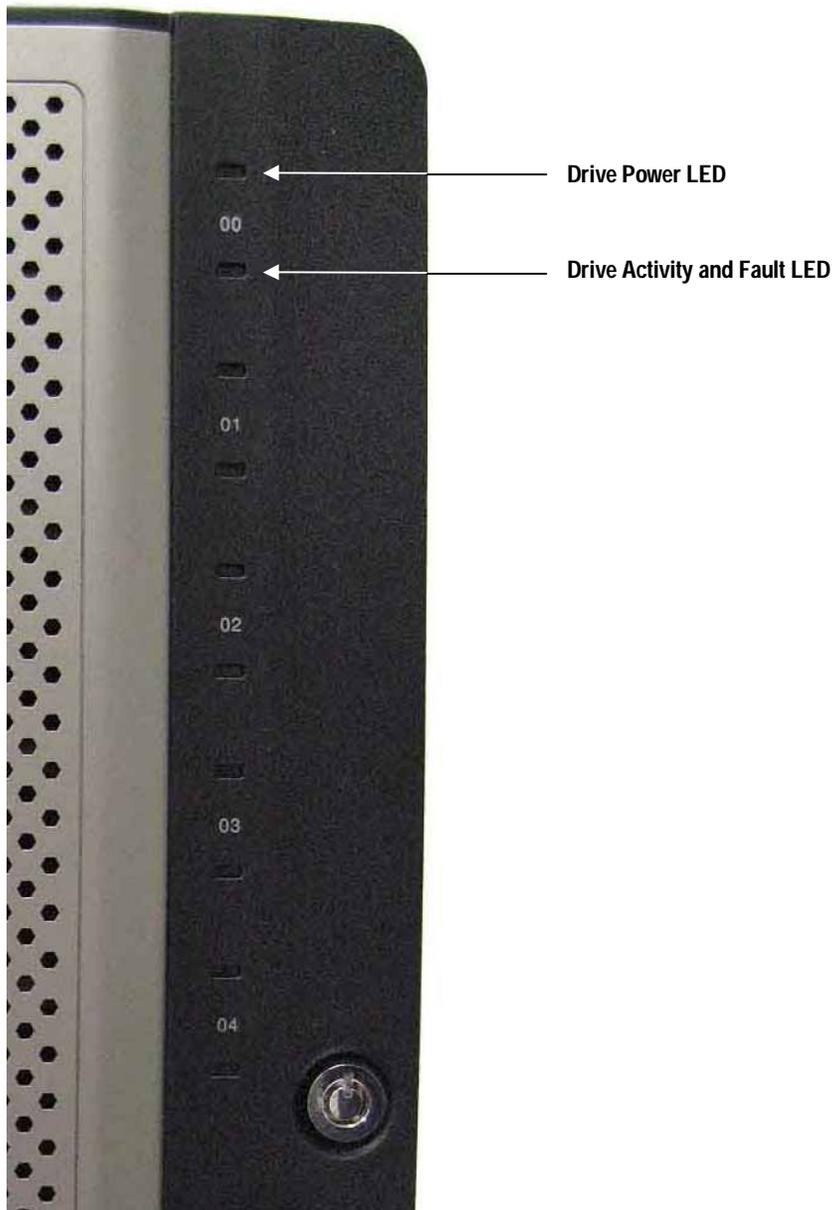

Figure 2-2. Hard Drive Power and Activity LEDs
- The hard drive power and drive activity/fault LEDs. (see Figure 2-2 and Table 2-2)